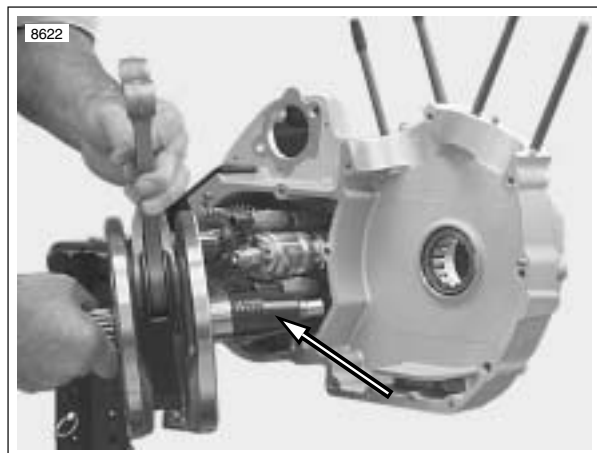

Figure 6-91. Installing Flywheel Assembly Using Crankshaft Guide Tool (Part No. HD-42326)
1. See Figure 6-91. Install the flywheel assembly into the left crankcase half using CRANKSHAFT GUIDE TOOL Part No. HD-42326.